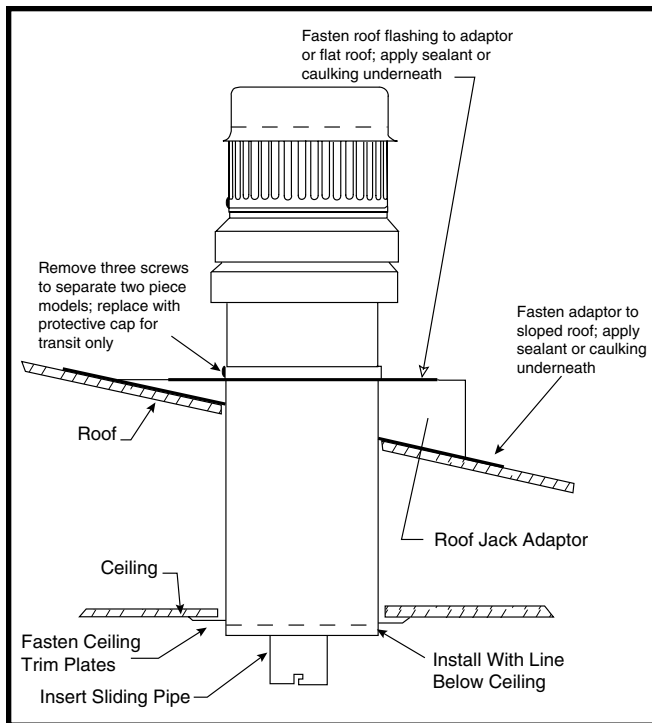

Figure 10. Roof Jack
6. Twist the vent pipe to lock the two pipes together and tighten the screw. All joints and connections should be inspected before start up of the furnace. See Figures 10 & 11 (page 14).